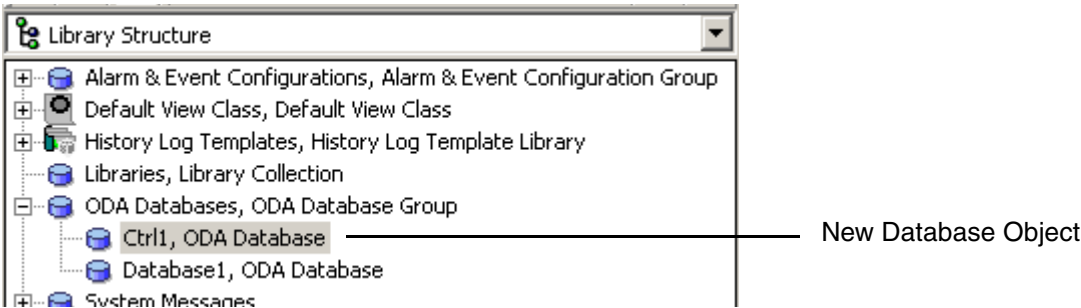

Figure 381. Database Object Added
- 3. Click **Create**. This creates a new database under the ODA Databases group, Figure 381.